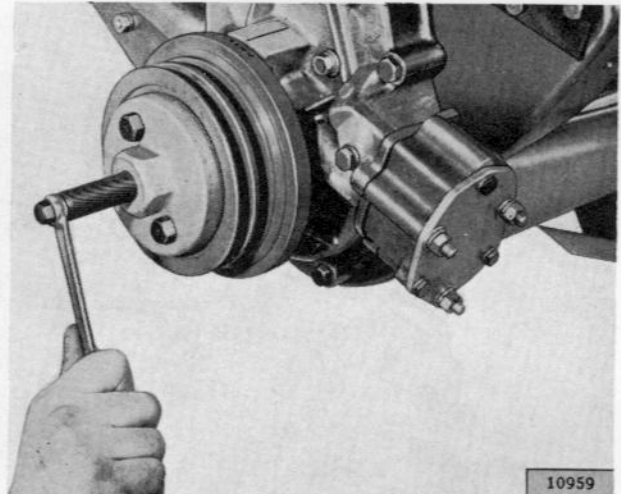

FIG. 74—REMOVING VIBRATION DAMPER WITH PULLER
Remove the bolt (45, Fig. 73) and pilot washer (44) that attach the vibration damper (43) to the crankshaft. Install a vibration damper puller tool C-3732-A as shown in Fig. 74, using the bolts provided. Turn in on the center screw to remove the vibration damper from the crankshaft.